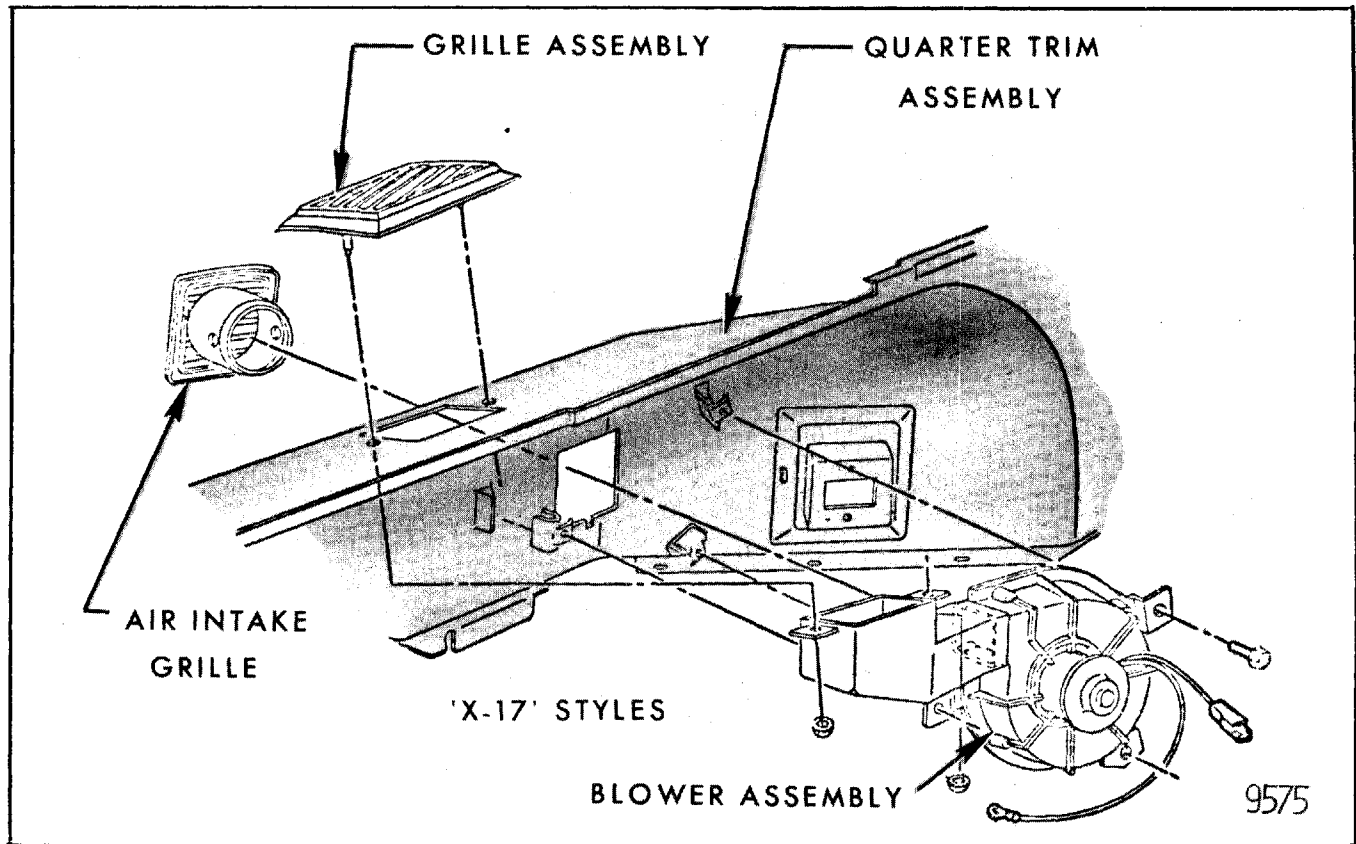

Fig. 6-29-Back Window Defogger - X-17 Styles
Air is drawn into the motor assembly adaptor or duct at the intake grille and forced out through the outlet grille against the back window at the top or side of the quarter trim assembly (see Fig. 6-29).
3. On X-17 styles, remove three attaching nuts from blower adaptor studs to separate blower assembly from adaptor. Then remove two attaching nuts from both intake and outlet grilles to complete disassembly (refer to Fig. 6-29).